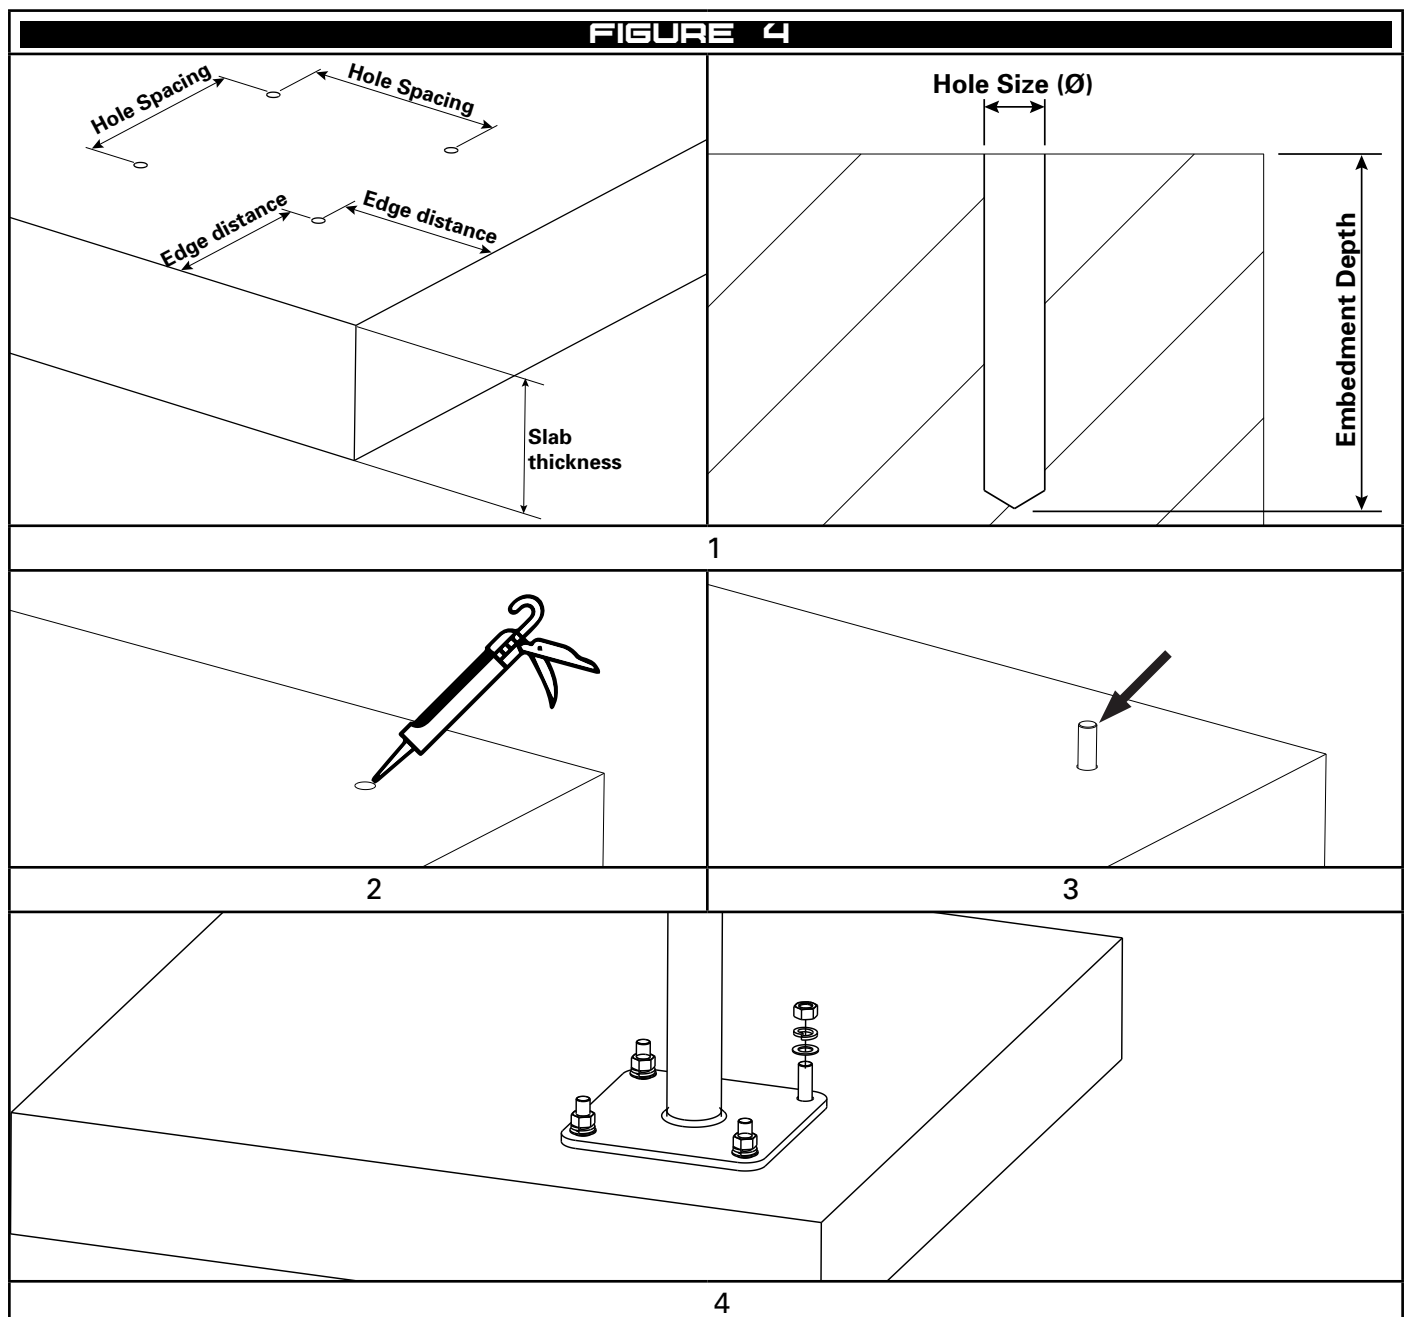

FIGURE 5
- 1 Mark the location for the holes and drill a hole with size and depth as per Figure 5.